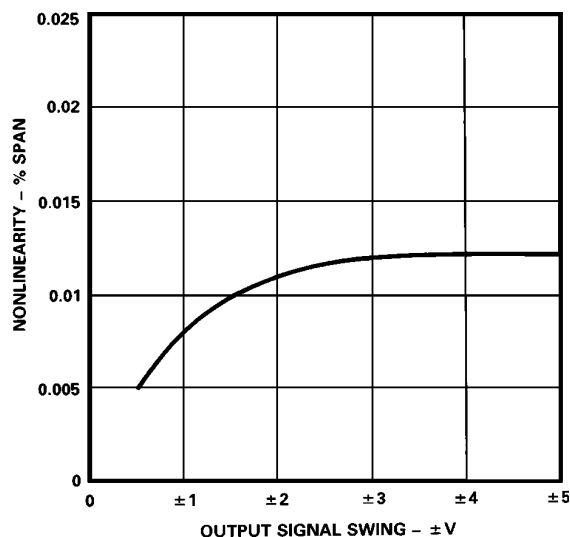

Figure 15. Nonlinearity vs. Signal Swing
**Operation at Reduced Signal Swing.** Although the nominal output signal swing for the AD202 and AD204 is  $\pm 5$  V, there may be cases where a smaller signal range may be desirable. When that is done, the fixed errors (principally offset terms and output noise) become a larger fraction of the signal, but nonlinearity is reduced. This is shown in Figure 15.